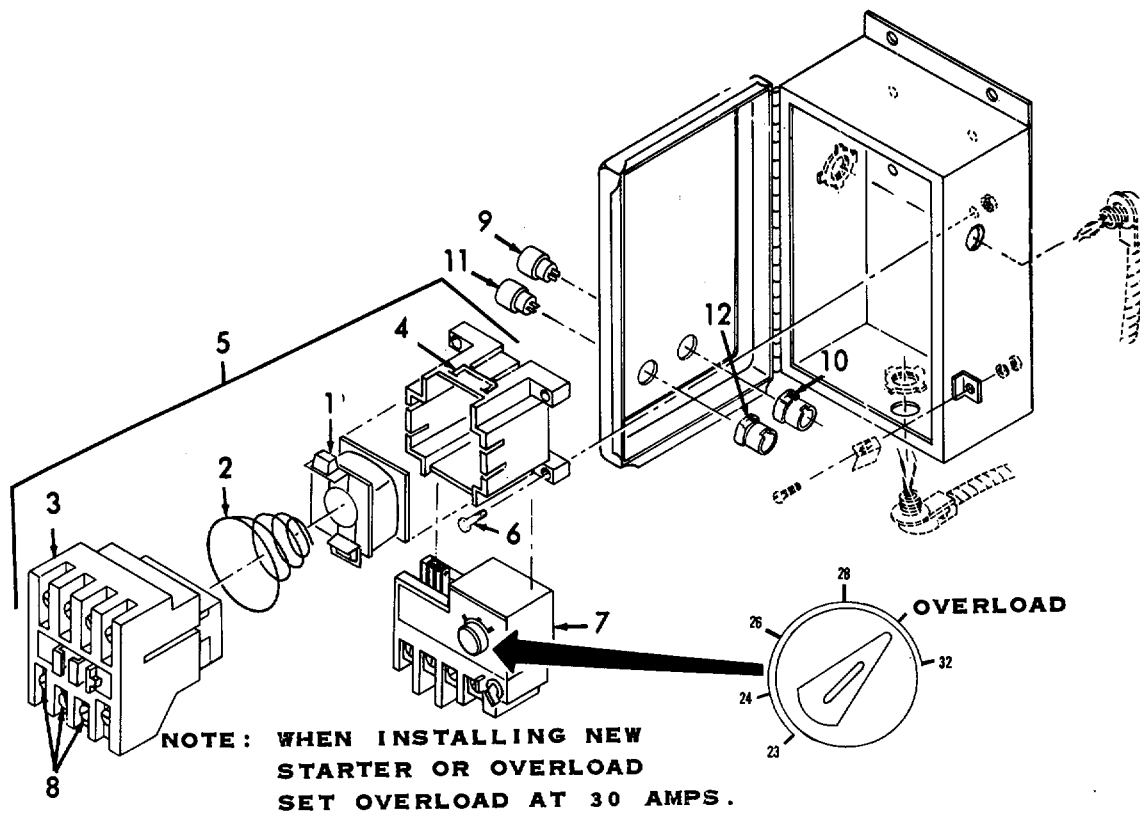

Figure 3-5. Starter Box, Assembly.
f. Assembly. (Refer to Figure 3-5).